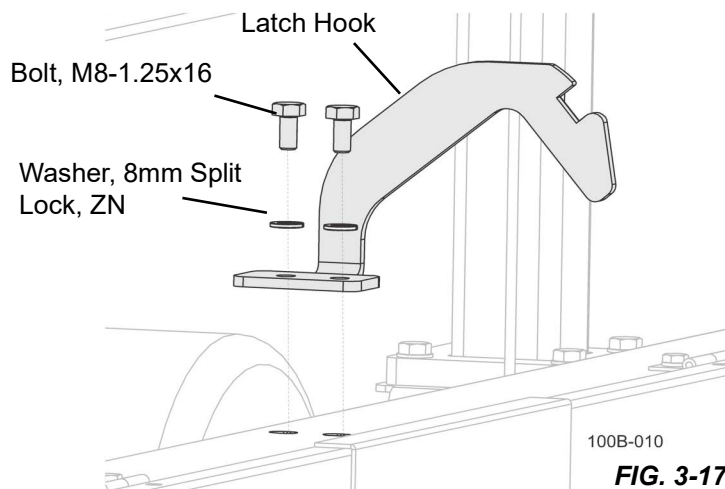

**FIG. 3-16**
- Invert the handle and replace it as shown. See FIG. 3-16.